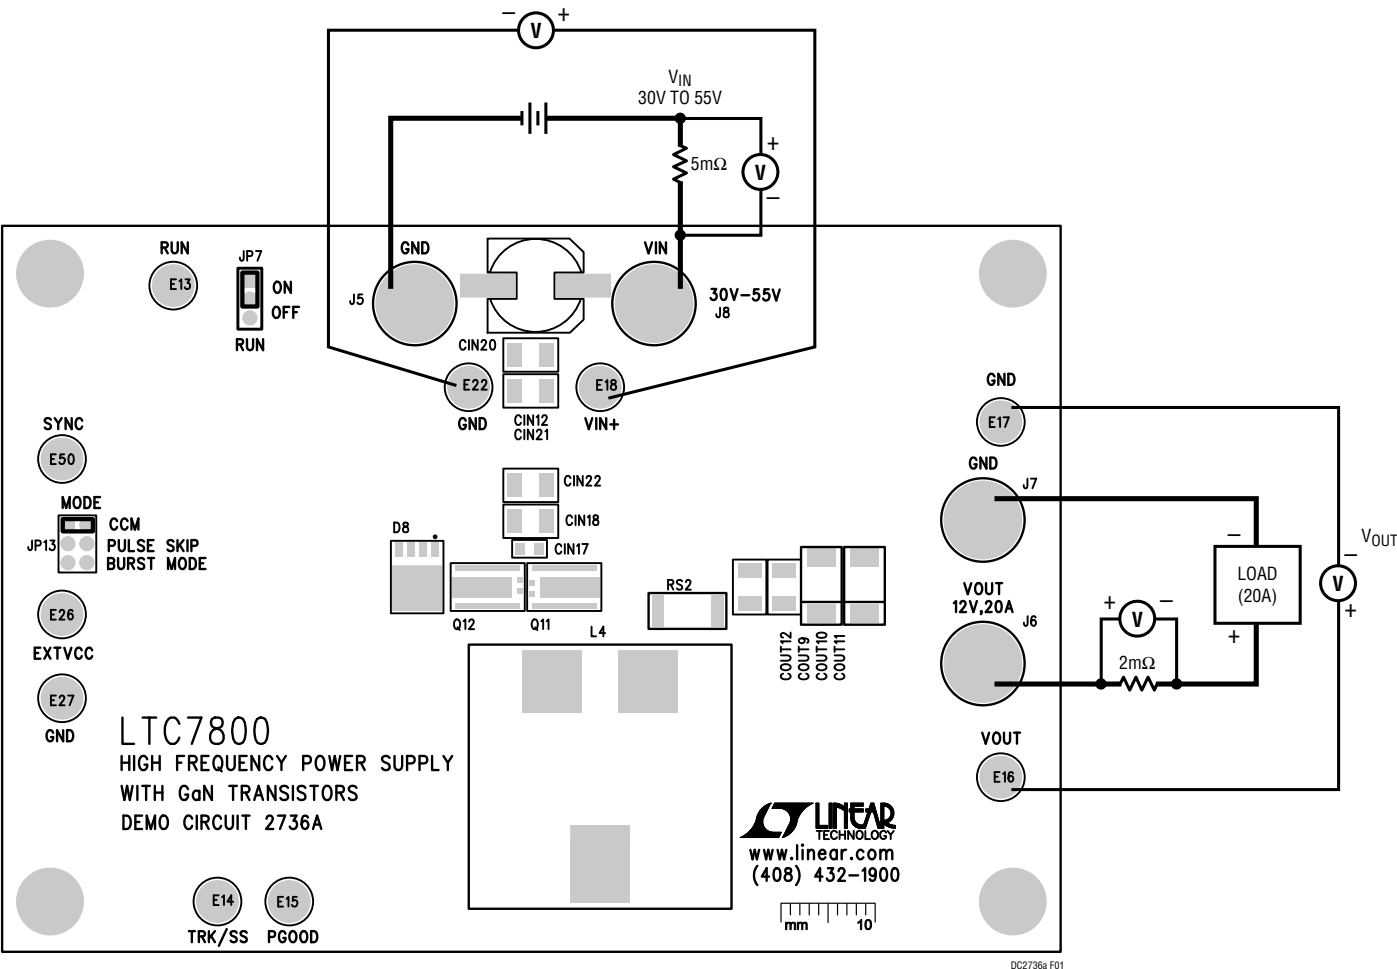

Figure 1. Proper Measurement Equipment Setup
Demonstration circuit 2736A is easy to set up to evaluate the performance of the LTC7800. Refer to Figure 1 for the proper measurement equipment setup and follow the procedure below.
3. Connect the output load between  $V_{OUT}$  and GND (Initial load: no load). Refer to Figure 1.